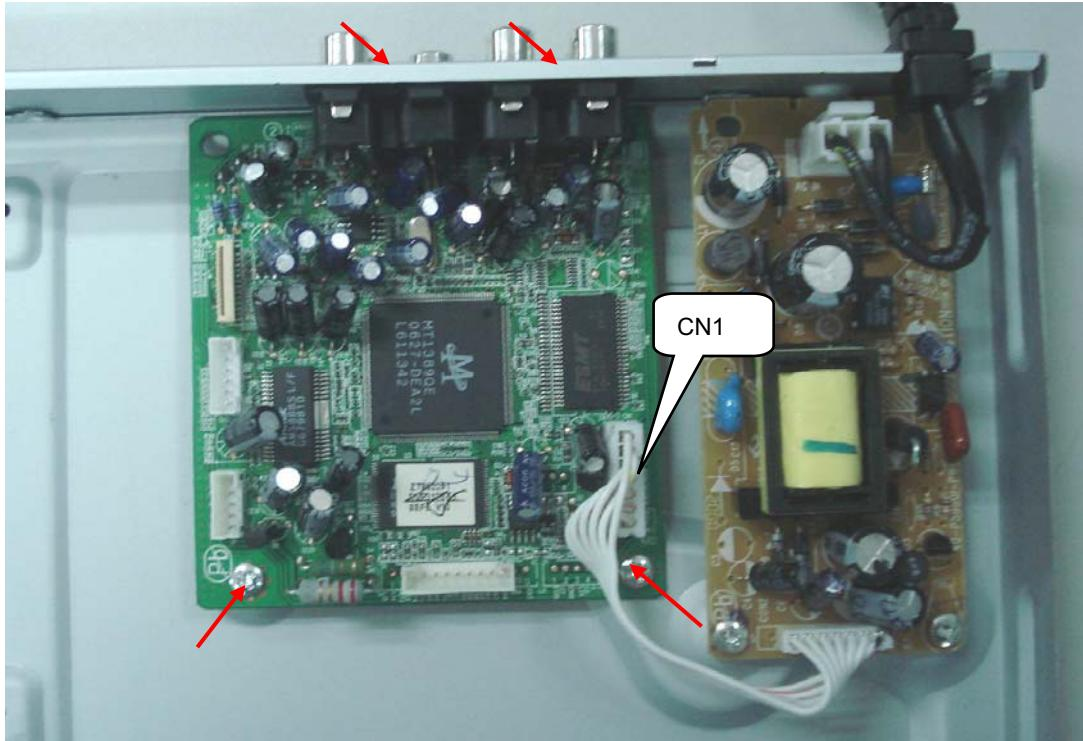

Figure 8
**Step6:** Dismantling Main Board, first disconnect the 1 connector, then remove 4 screws to remove the Main board. (Figure 8)